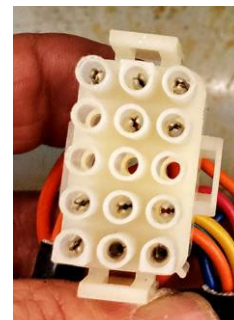

Figure 22
25. Reach up behind the component box and disconnect the 12-pin gray harness and 15-pin black harness from the rear of the component box (see Figures 22 & 23).